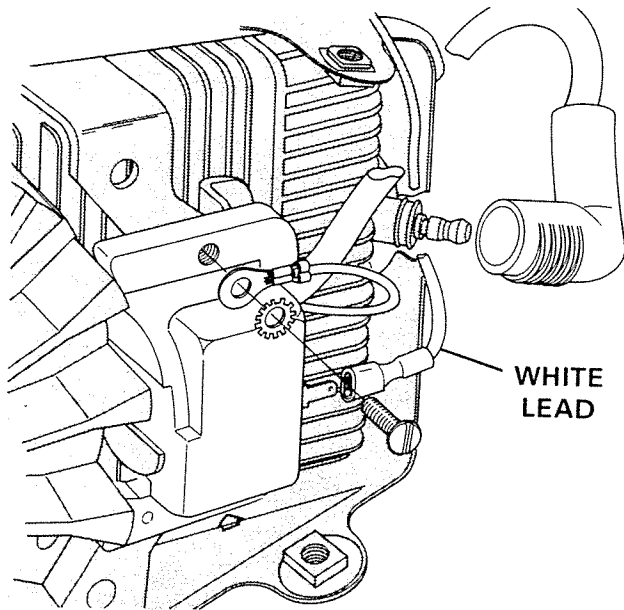

Figure 5. Installing Coil.
1. Secure assembly to bracket with ground lead eyelet under head of screw. Figure 5.
2. Connect white lead to spade terminal. Figure 5.